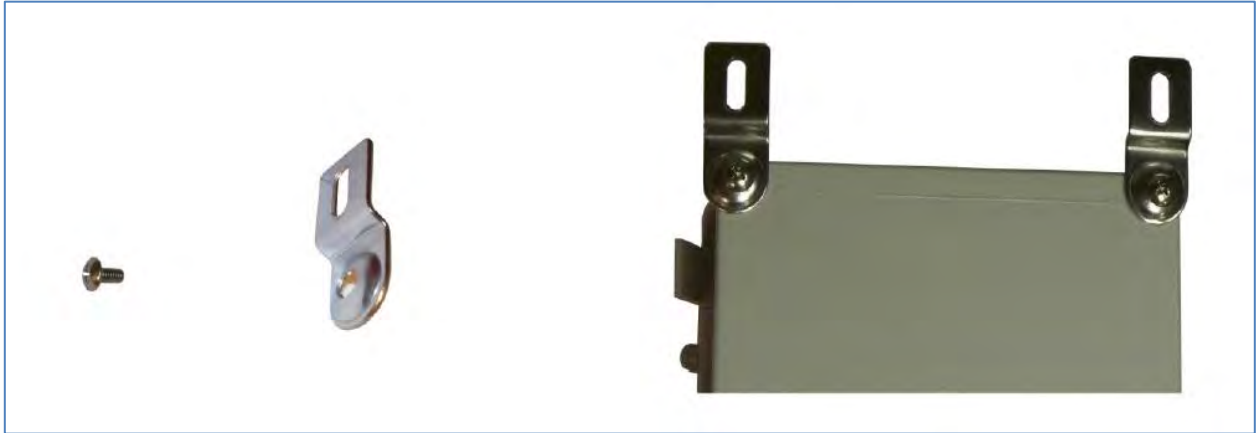

Figure 4: Mounting the Enclosure
1. For outdoor enclosures, attach the mounting brackets to the back of the enclosure with the four provided screws as shown in Figure 4.